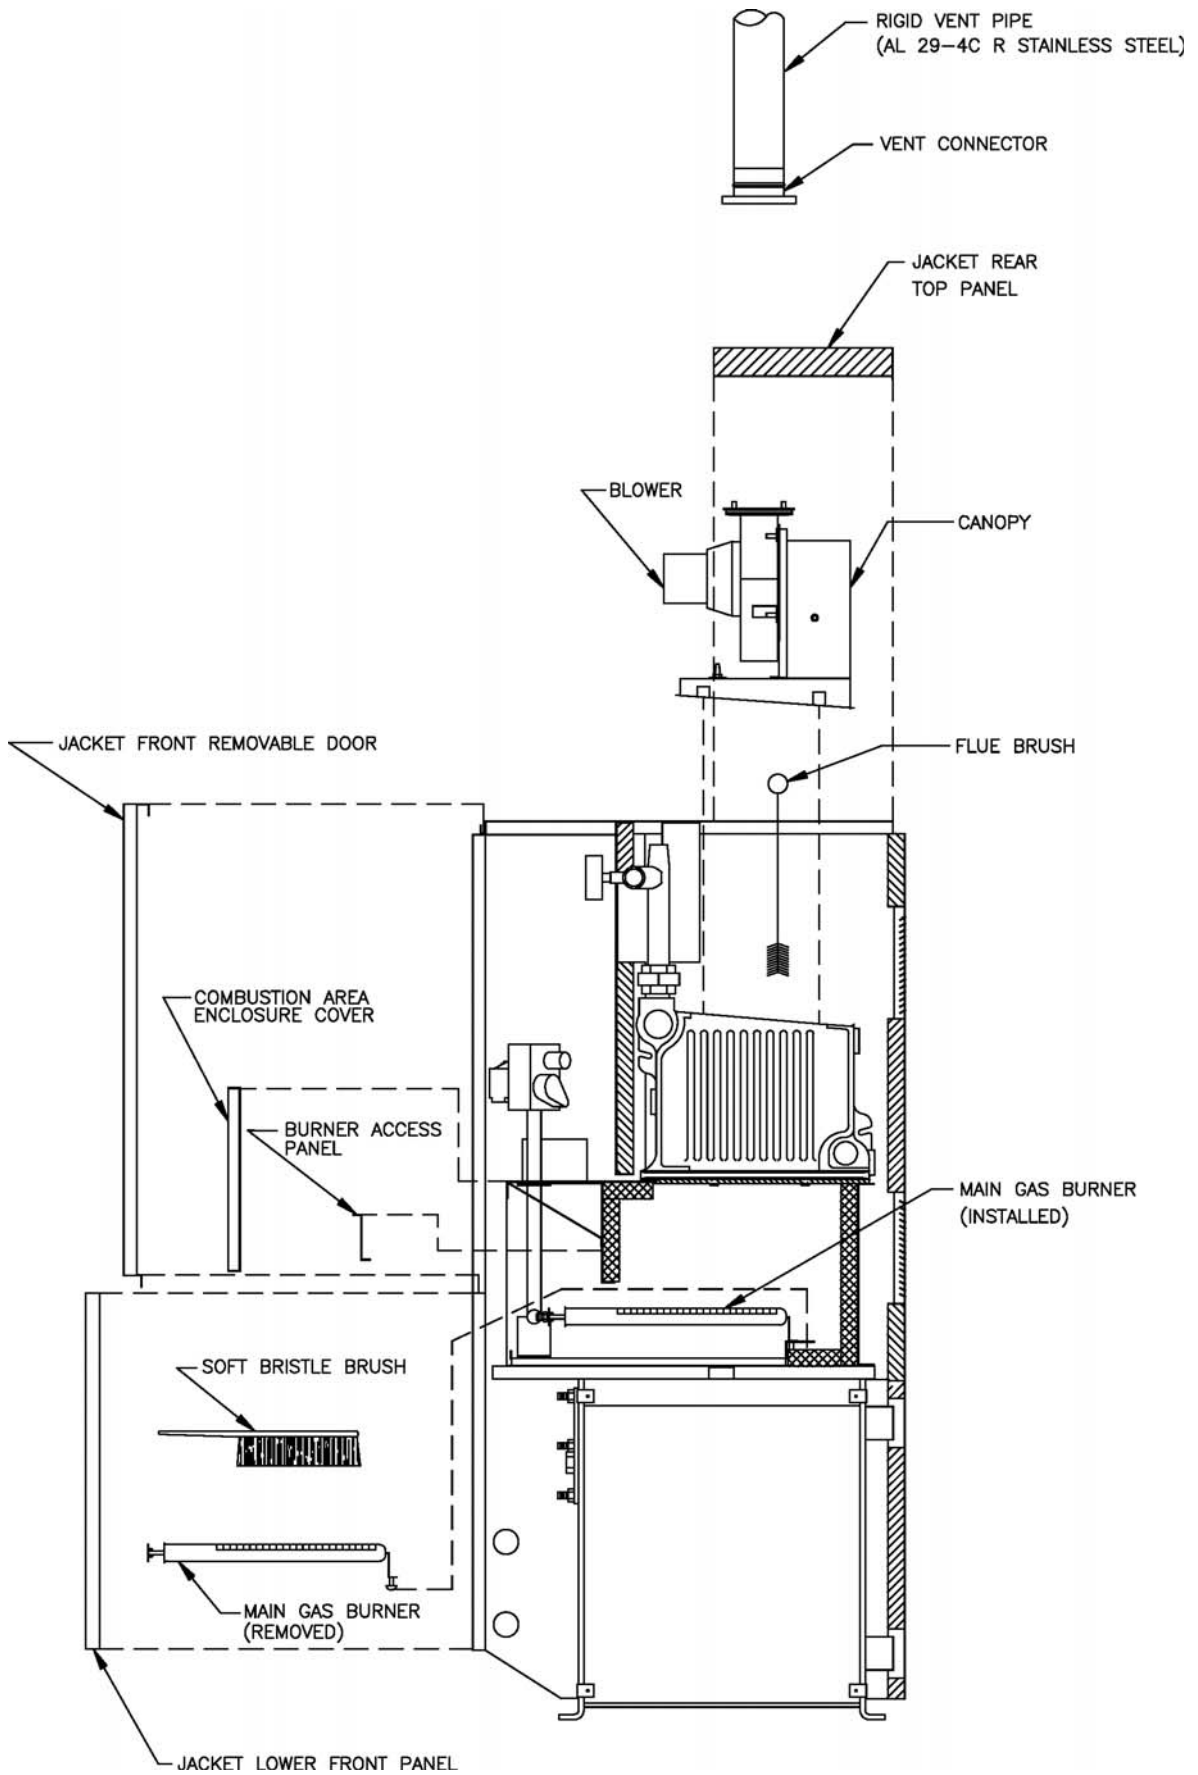

Figure 25: Burner and Flueway Cleaning
1. Remove Main Burners. See Figure 25.
2. Remove four (4) locknuts securing vent connector.
- a. Remove four (4) machine screws securing canopy to heat exchanger.
7. Inspect flue passages. Clean with flue brush. See Figure 25.
2. Clean main burners. Brush top of burners with soft bristle brush. See Figure 25. Vacuum to remove any dirt and lint.
- b. Main burners must be properly secured in burner tray slot at rear of combustion chamber and over gas orifice with hitch pin in place. See Figure 25.